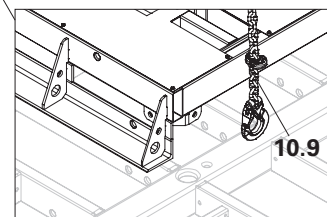

Fig. D2.05b
1. Attach the Heated Formwork Panel MXH (10) with the Lifting Gear Combi MX (3) to the transport openings (10.9). (Fig. D2.05b)